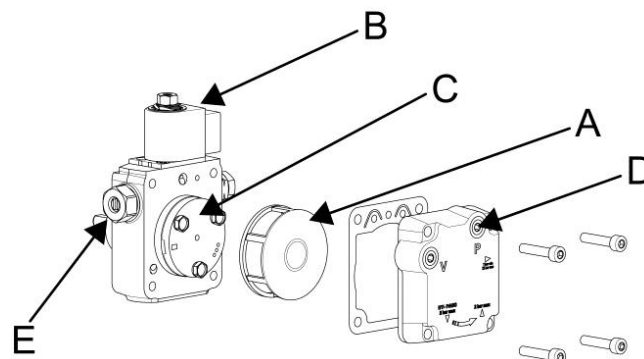
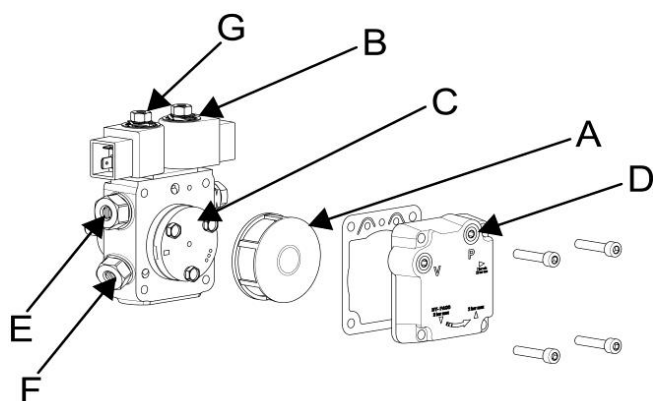

Figure 5 - Single solenoid valve pump.
Figure 6 - Double solenoid valve pump.
Turn the switch (B Fig. 5) to the OFF position (O) or turn the thermostat or control device (timer) off if there is one connected. The flame will go out and the ventilation will continue until it has finished its post-ventilation cycle (cooling down).
The generator is equipped with a safety device (L Fig. 6), which controls the flame. If one or more anomalies occur when the generator is functioning, the device will block the burner and the RESET button (D Fig. 5 or 6) will light up.
To adjust the fuel pressure for the XL 9ERM heater, use the specific adjustment screw (E Fig. 5). Turning the screw clockwise increases the pressure, turning it in the opposite direction decreases it.
Remember that information on adjusting the pump pressure can be found in the manual. To check if the pump pressure is correct, connect the manometer to the pressure plug (D Fig. 5). The pressure must be adjusted by a qualified person. Incorrect adjustment may result in improper combustion.
To adjust the fuel pressure to the XL 9SRM heater, turn the two adjustment screws. When the appliance operates in the 1st flame stage, turn the adjustment screw (E Fig. 6). When the appliance operates in the 2nd flame stage, turn the fixing screw (F Fig. 6). Turning the adjustment screw (E Fig. 6) is all that is needed. Turning the screw clockwise increases the pressure, turning it in the opposite direction decreases it.
Remember that there are two pump pressures for this model. Remember that information on adjusting the pump pressure can be found in the manual. To check if the pump pressures are correct, connect the the manometer to the pressure plug (D Fig. 6). The pressure must be adjusted by a qualified person. Incorrect adjustment may result in improper combustion.
If the fuel does not reach the nozzle, it may be that the pump has seized and/or that the joint is broken. In this case, loosen the three screws blocking the pump and verify the condition of the pump joint. Make sure that the pump has not seized up. If the joint is broken, replace it with an original joint according to the type of motor. If the pump's shaft has seized, replace it. If the pump starts to squeal and does not working correctly, it may be that the filtering element is clogged. Proceed by removing it (see Fig. 5 and Fig. 6) and clean it using clean fuel. Make sure that the fuel used to wash the filter is the same type of fuel used for the heater operation. If it is not available, use compressed air. Be careful not to ruin the filtering element structure. Pay attention when performing repairs on the pump because it works at high pressure.